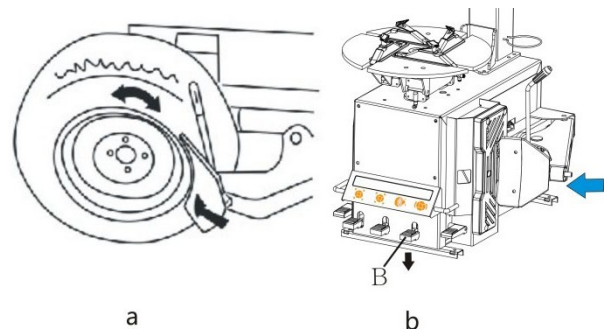

Fig.13
- Press pedal B (fig. 13) to activate the heel breaker and release the pedal when the bead breaker is all the way in and the tire is detached from the rim.